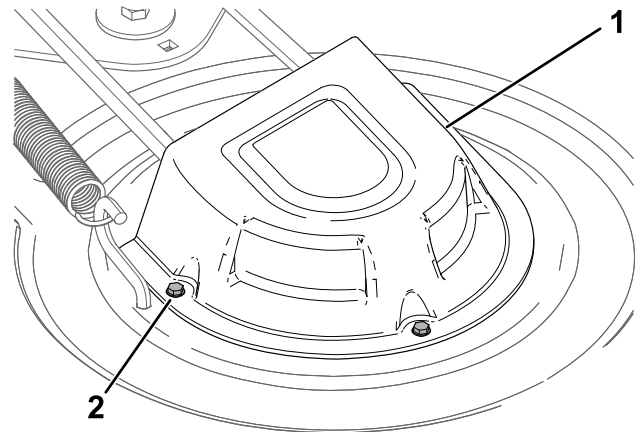

Figure 49
4. Loosen the screws and remove the pulley covers (Figure 49).